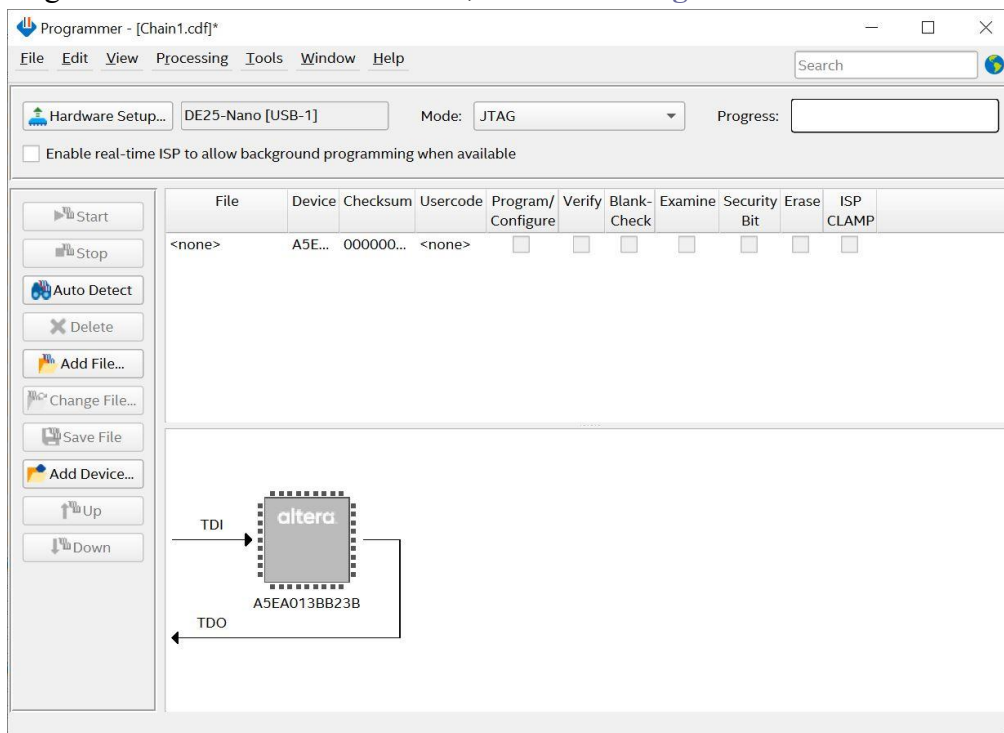

Figure 3-5 FPGA detected in Quartus programmer
6. The Agilex 5 FPGA should be detected, as shown in **Figure 3-5**.